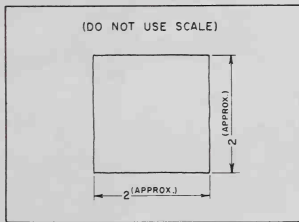

Fig. 2-10. Layout for section C, Plate No. 5.
1. In section C, sketch a square having sides of approximately 2 in. in length, Fig. 2-10.